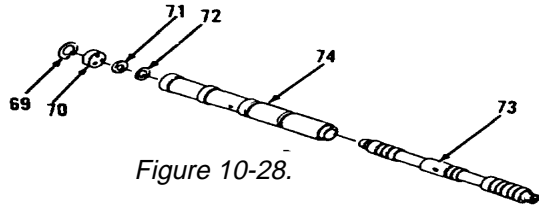
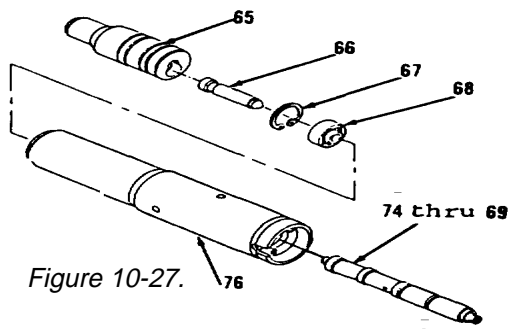
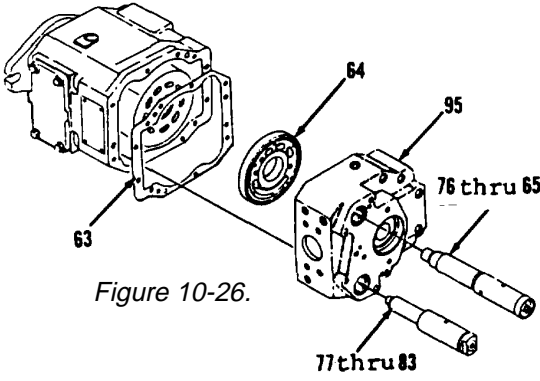

Figure 10-28.
Figure 10-27.
Figure 10-26.
- 58. Install spool (73) in sleeve (74, Figure 10-28).
- 59. Install stop (72), ring (71), spacer (70) and ring (69).
- 60. Install items 74 thru 69 as an assembly in cartridge (76, Figure 10-27).
- 61. Install insert (68) and ring (67) in cartridge (76).
- 62. Install pistons (66 and 65) in cartridge (76).
- 63. Install items 83 thru 77 and items 76 thru 65 as assemblies in head (95, Figure 10-26).
- 64. Install plate (64) and new gasket (63).